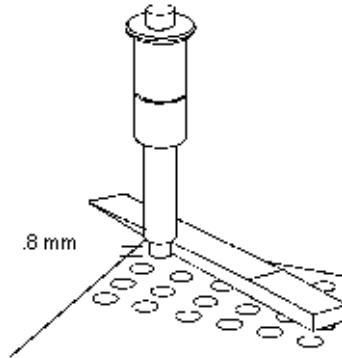

Figure 5-11. Z Height Adjustment in Tip Rack
3. Alignment Tool moves to Tip Rack 1 position A1. See Figure 5-11.
3. Alignment Tool moves to Tip Rack 2 position G1. See Figure 5-11.